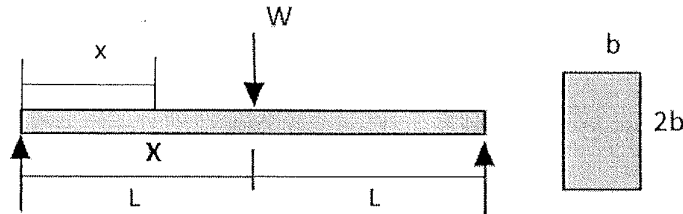

Figure Q5
- (i) Distance ($\bar{Y}$) to the center of mass (G) from the top of the "T" section. (5 marks)
- (ii) Second Moment of Area about X and Y axes going through the center of mass (G). (5 marks)
- (c) A Simply supported beam having a rectangular section carries a central load W as shown in Figure Q5. The section having maximum bending moment is has reached yield point at the outer surface.